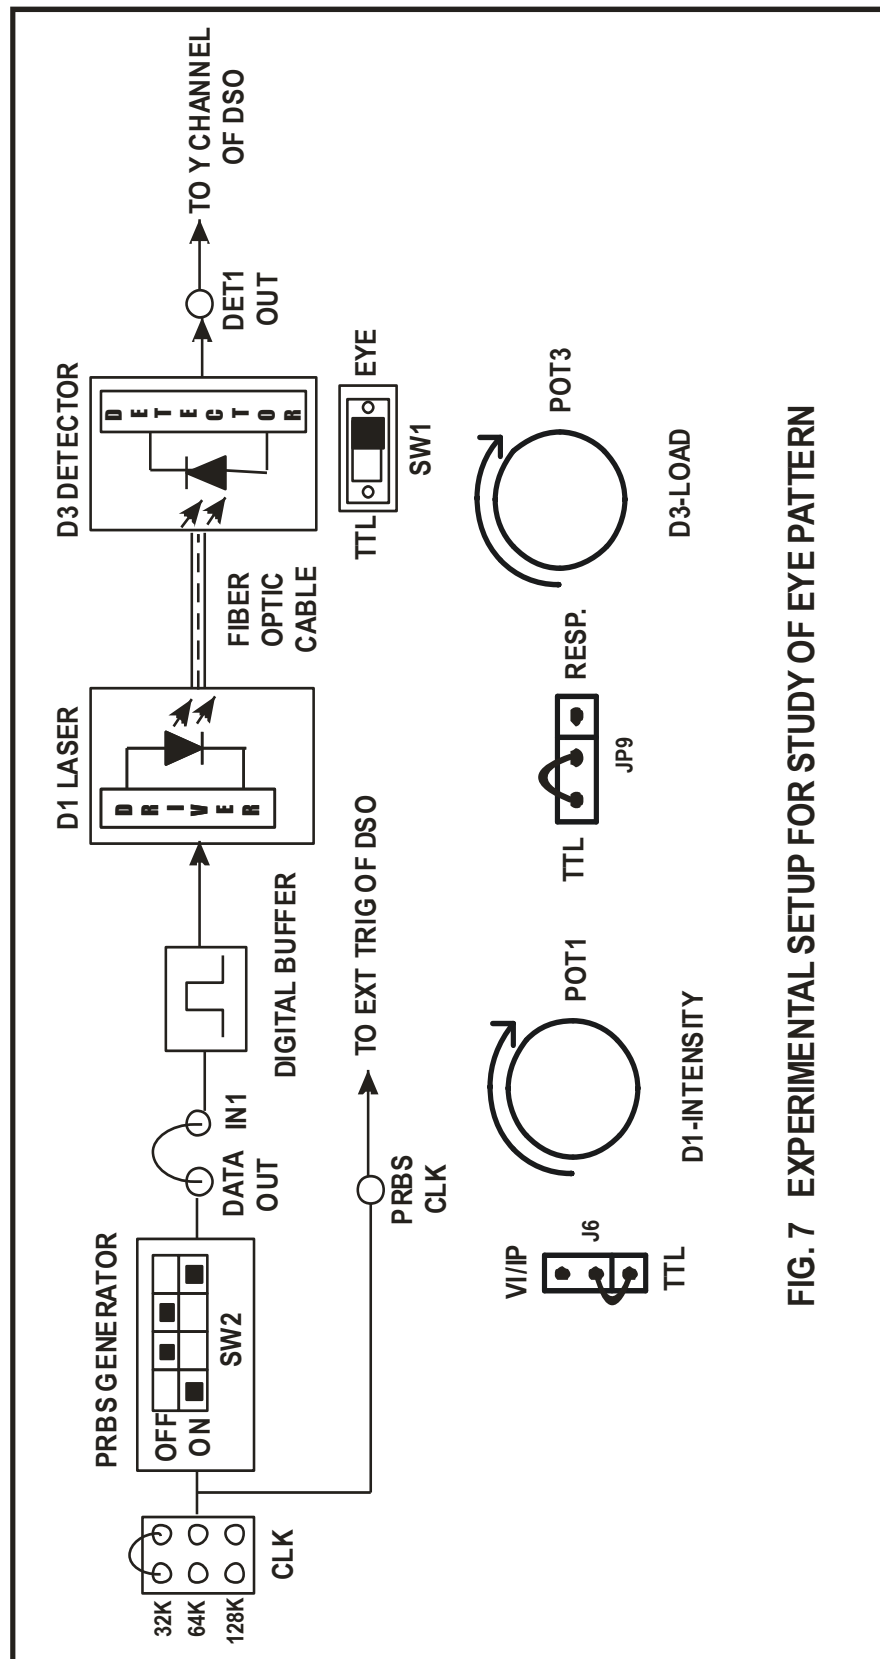

FIG. 7 EXPERIMENTAL SETUP FOR STUDY OF EYE PATTERN
An eye-pattern can be observed with the basic equipment shown in Fig.7. The output from a pseudorandom data pattern generator is applied to the vertical input of an oscilloscope and the data rate is used to trigger the horizontal sweep. This results in the type of pattern shown in Fig. 12.2, which is called the **eye pattern** because the display shape resembles a human eye. To see how the display pattern is formed, consider the eight possible 4-bit-long NRZ combinations. When these sixteen combinations are superimposed simultaneously, an eye pattern as shown in Fig. 12.2 is formed.
- Make connections as shown in fig.7. Connect the power supply with proper polarity to FOL-M-GP Kit. While connecting this, ensure that the power supply is OFF.
- Keep switch SW2 as shown in fig 7 to generate PRBS signal.
- Keep the jumper setting as shown in fig 7.